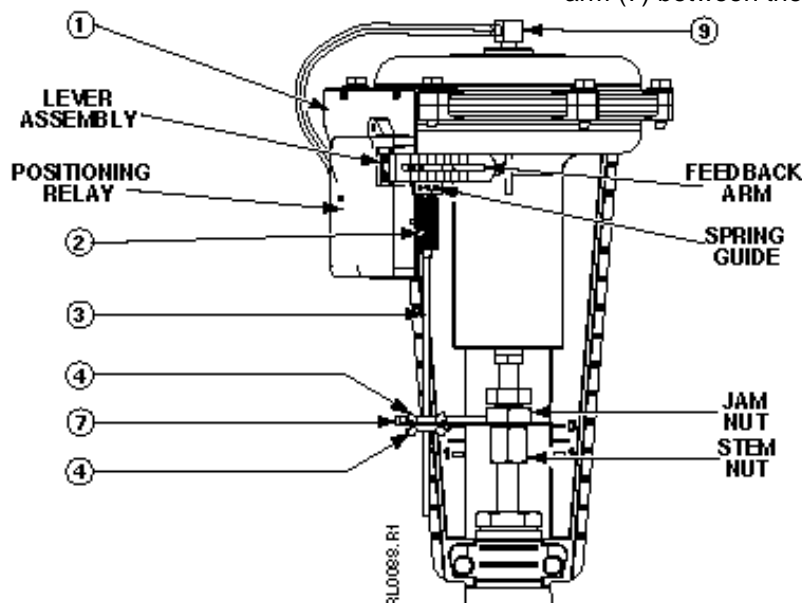

Figure 1. Mounting Parts.
8. Attach the connector (9) to the actuator. See *Figure 1*.